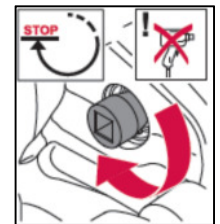

Fig. 2
4. Turn the adjusting rod clockwise until there is a noticeable resistance. Fig. 2)